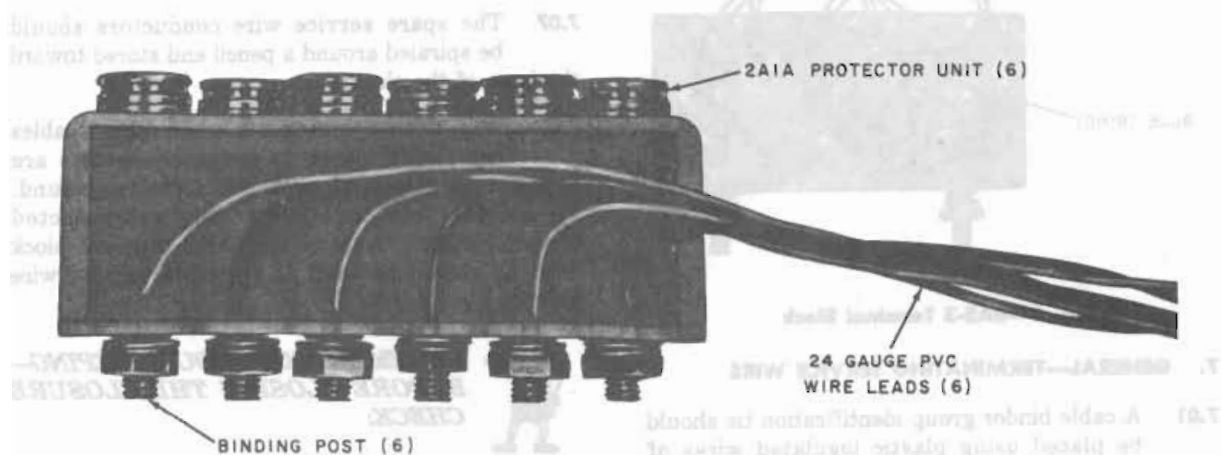

Fig. 6—6A3A-3 Terminal Block
- (a) **6A3A-3 Terminal Blocks (Fig. 6):** Used for 3-pair station protection. Each terminal block will be marked "STATION PROTECTION". The terminal block is equipped with six color coded leads (white-blue, white-orange, white-green)
7.04 At all exposed locations, where station protection (6A3A-3 terminal blocks, Fig. 6) is required, the closure must be bonded to ground. To bond the closure, terminate No. 6 ground wire to the F connector on the ground bracket assembly. Bond the other end to ground as outlined in Section 460-100-201.